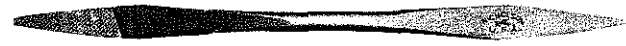

Fig. 10-12 Auger bit file.
1. Select an auger bit file, figure 10-12.